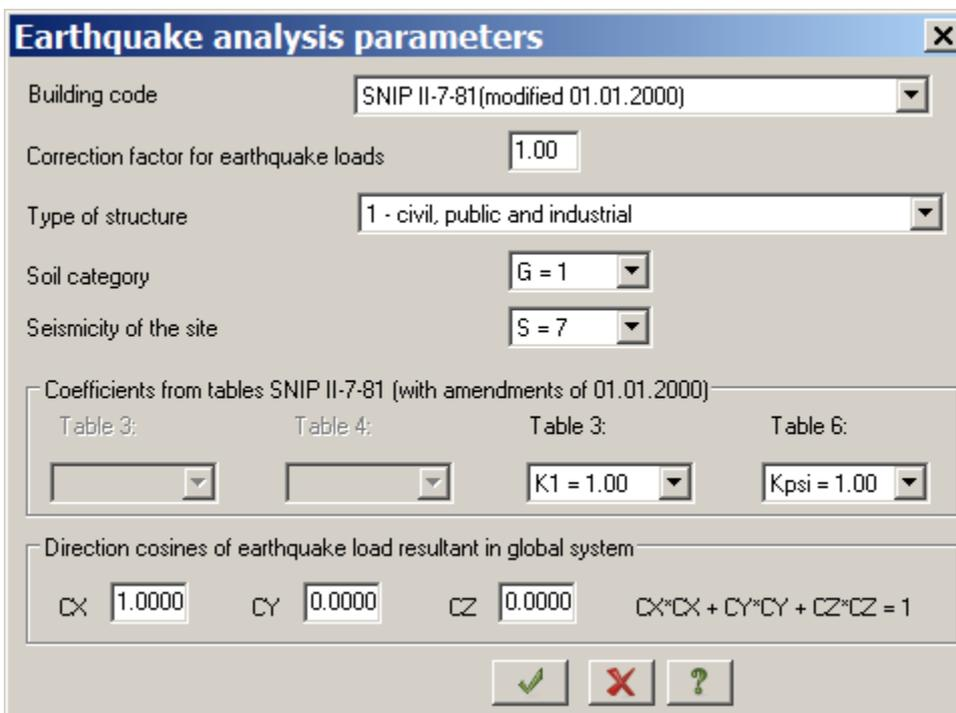

Figure 4.29 Earthquake analysis parameters dialog box
- ⇒ In the **Earthquake analysis parameters** dialog box (see Fig.4.29), define the following data: